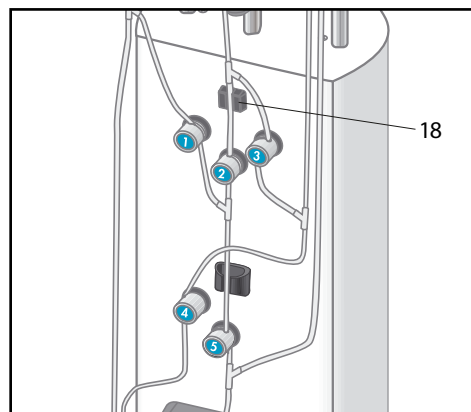

Figure 34: Tubing in valves
2. Mount the tubing between valve no. 2 and the twist-off cap into the liquid sensor (18, fig. 34). Ascertain that the tubing is placed correctly into the sensor fitting.